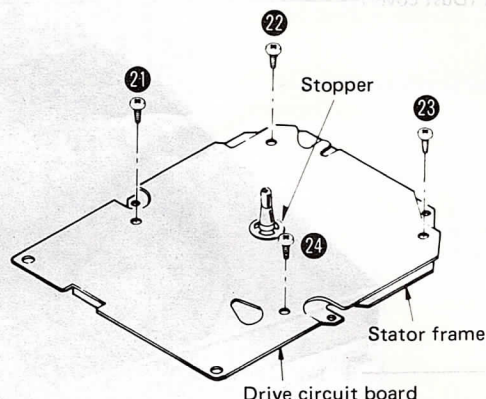

Fig. 10
3. Cut off the stopper by nippers and remove the 4 setscrews (Fig. 10 : 21 ~ 24) to separate the stator frame and drive circuit board.